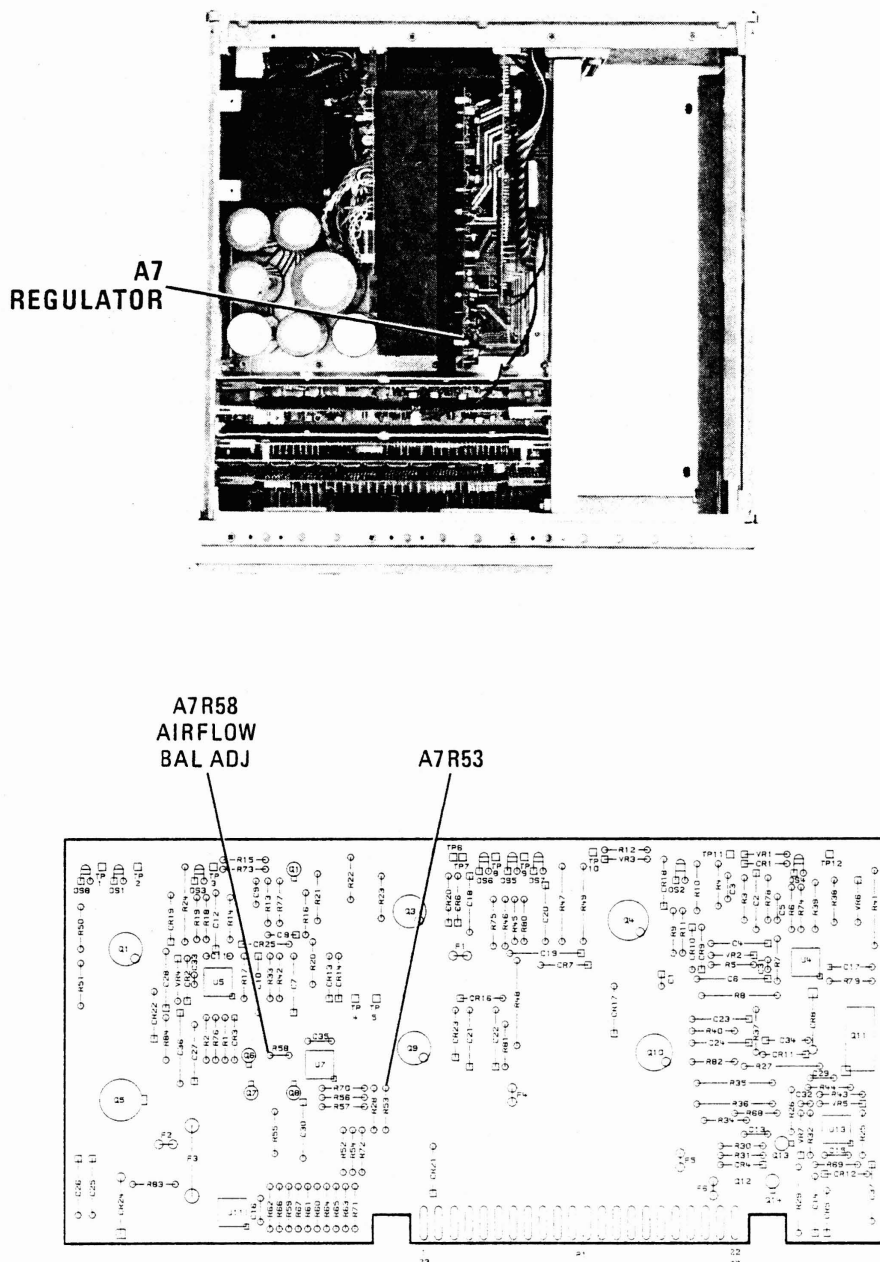

Figure 5-3. Location of AIRFLOW BALance Adjustment
4. Connect a shorting jumper across A7R53. This removes the hysteresis from comparator A7U11. Refer to Figure 5-3 for the location of A7R53.
7. Remove the top cover and quickly adjust A7R58 AIRFLOW BAL until the LED display oscillates between 1000 00 and 1000 02. Refer to Figure 5-3 for A7R58 adjustment location.
Page 5-8, Figure 5-3:
Replace Figure 5-3 with the following figure: